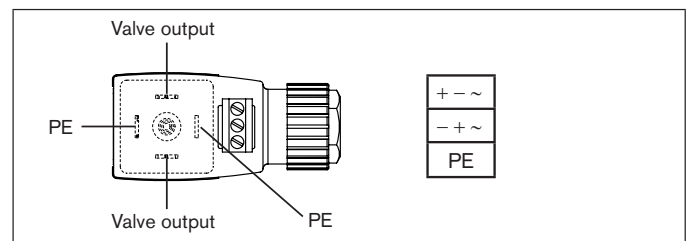
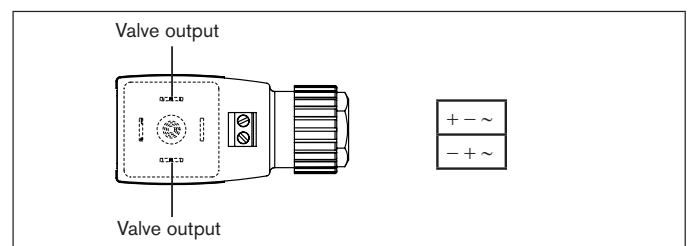

Fig. 1: Pin assignment 110 - 230 V
Fig. 2: Pin assignment 24 V
→ Connect the cable plug according to the pin assignment in „Fig. 1“ or „Fig. 2“.
- the pin assignment according to „Fig. 1“ or „Fig. 2“.